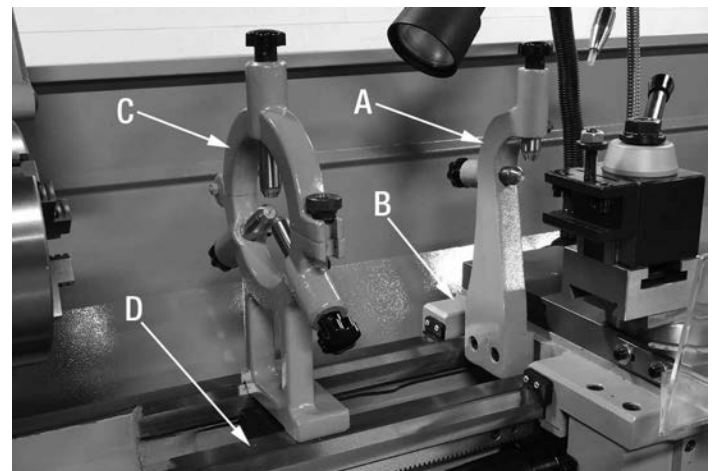

FIGURE 10
The follow and steady rests serve as workpiece supports during operations. Install the follow rest (A) Fig.10 to the saddle (B) using 2 cap screws. Install the steady rest (C) to the bedway (D) (in between the carriage and the chuck) using the clamp shoe, bolt and lock nut assembly.